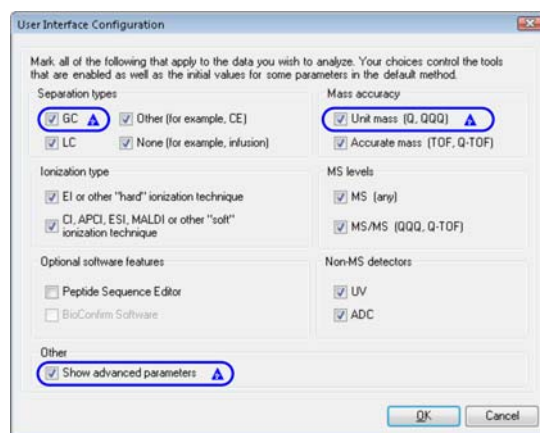

Figure 19 User Interface Configuration dialog box
- b Mark the **Show advanced parameters** check box under the Other group heading. See Figure 19 on page 42.